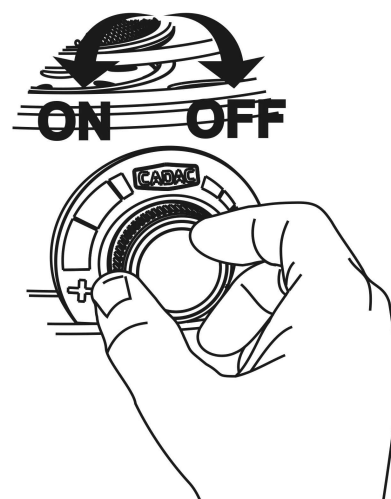

Fig. 3
- Use the control knob to adjust the flame intensity to the desired level by turning the knob clockwise to decrease the flame and anti clockwise to increase the flame (see Fig. 3).
- To fit the gas container, first check that the appliance valve is in the off position by turning the knob clockwise to its stop (See Fig. 3).